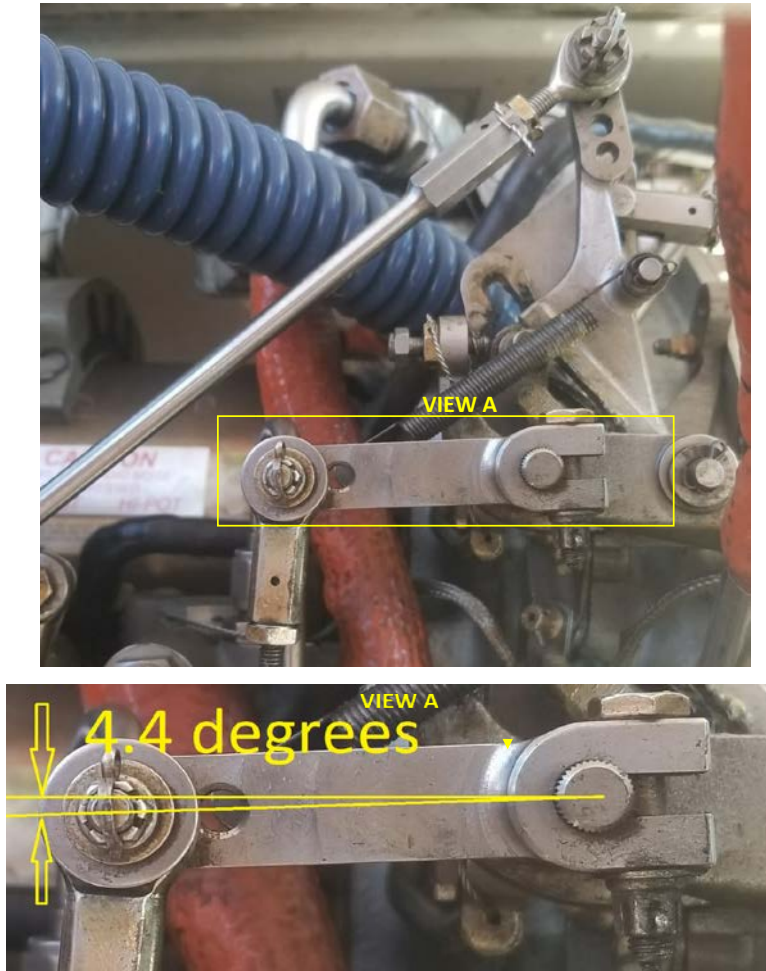

FIGURE 1
- 1 Move cockpit engine power lever to the idle position. Open Co-pilot side engine cowl door. Inspect the Cambox Input Lever installation. With the Engine Power Lever in the idle position, the Cambox Input Lever must be installed pointing aft towards the firewall and one serration down from the horizontal position. (REF FIGURE 1)
- 2 If requirements are not met from previous step, rig Cambox Input Arm. In the cockpit, move the Power Control Lever to the idle position. Disconnect the Power Lever Control cable rod end from the Cambox Input Lever. Remove safety and remove Cambox Input Lever clamp bolt. Remove Cambox Input Lever and reposition lever on serrated cambox shaft, pointing aft towards firewall and one serration down from the horizontal position. (Ref fig 1). Install Input Lever clamp bolt and tighten. Lengthen or Shorten the Power Lever Control Cable using the bulkhead jam nuts and/or Control Cable rod end as required to obtain a slip fit for the attach bolt between control cable rod end and Cambox Input Lever. Check to see that the threads are visible through the witness hole in the control cable rod end. After adjustment, Attach the Power Control Cable rod end and Cambox Input Lever together with attachment bolt using the outermost hole of the Cambox Input Lever.